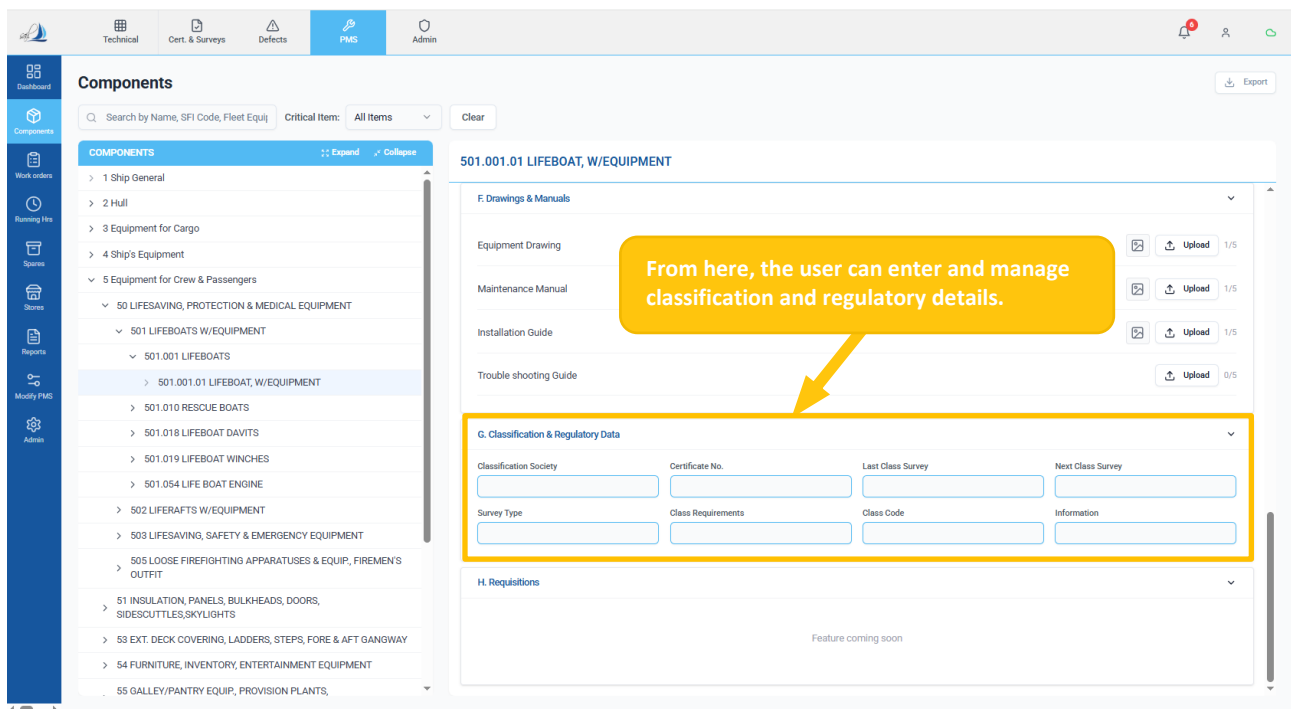

Figure 27
- In the Part G section, users can view and manage Classification and Regulatory Data for the selected component. (Ref Figure 27)